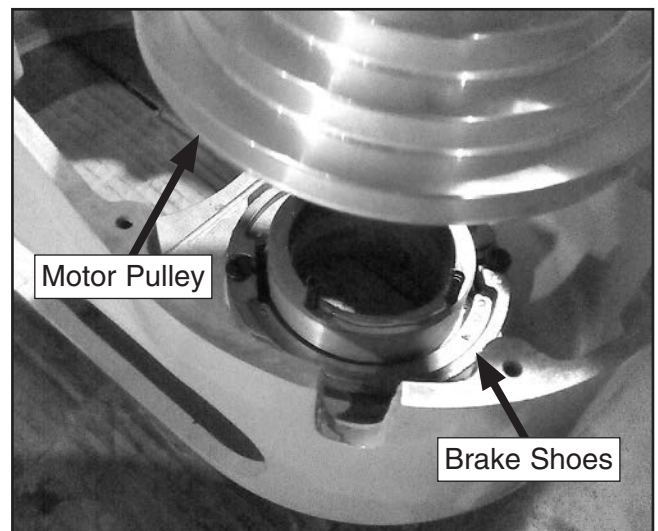

Figure 96. Removing motor pulley to gain access to brake shoes.
- Slide motor pulley up to remove it from belt housing (see **Figure 96**), inspect brake shoes for damage or wear, and replace if necessary.